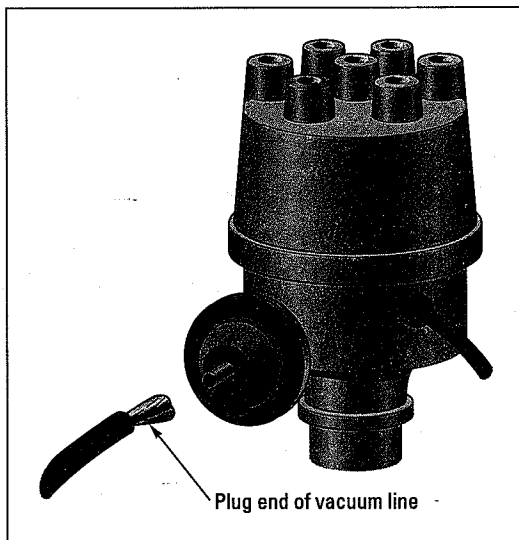

Figure 12-50:
10. Attached to the side of your distributor is a round gizmo called a vacuum advance. Disconnect the little rubber hose that comes from it, and put a piece of tape on the end of the hose — or stick a screw in it — to seal it off (see Figure 12-50).